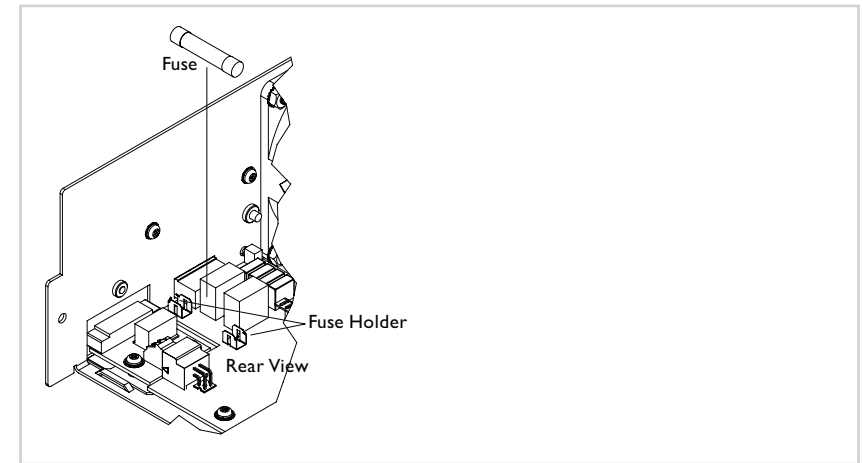

Figure 7: Fuse Holder with Fuse
2. Remove the power module from the chassis to expose the fuse. See Figure 7.
3. Carefully pull the fuse from the fuse holder. See Figure 7.